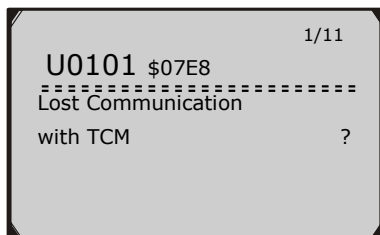

Figure 5.41
- 1) Repeat steps in the **Read Codes** section to identify DTCs. (Figure 5.41)